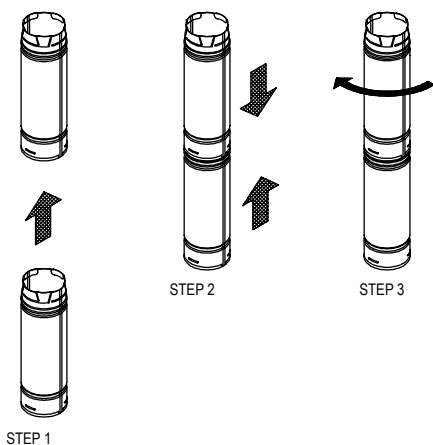

Figure 9
5. Pipe Assembly. Sections of DuraVent round pipe are joined together by lining up the female end of the locking lug with the male end slot, pushing them together, and turning clockwise to twist lock. Refer to **Figure 9**. Sheet metal screws are not needed for 3" through 8" diameter pipe. However, if desired, use 1/4-inch long sheet metal screws for 3" through 8" diameter pipe. Never penetrate the inner liner with screws. For 10" through 16" diameter pipe, DuraVent recommends using a minimum of (4) 3/8" sheet metal screws per joint, and a minimum of (6) 3/8" sheet metal screws are required per joint for 18" and larger diameters. Each Pipe Section is labelled, and an arrow shows the direction of the exhaust flow.